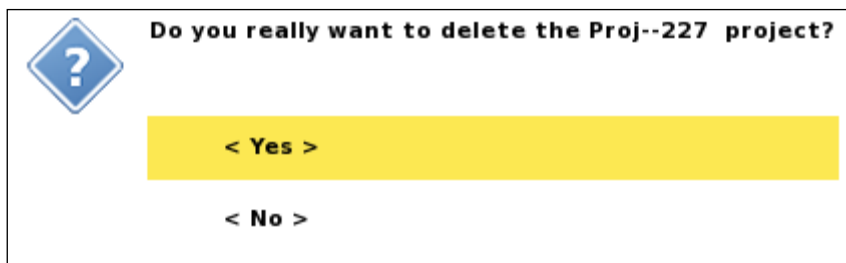

Figure 17 *Confirm Project Delete dialog*
- **Delete:** A confirmation dialog is shown and the *Project* will be deleted if the user confirms the deletion (Figure 17)